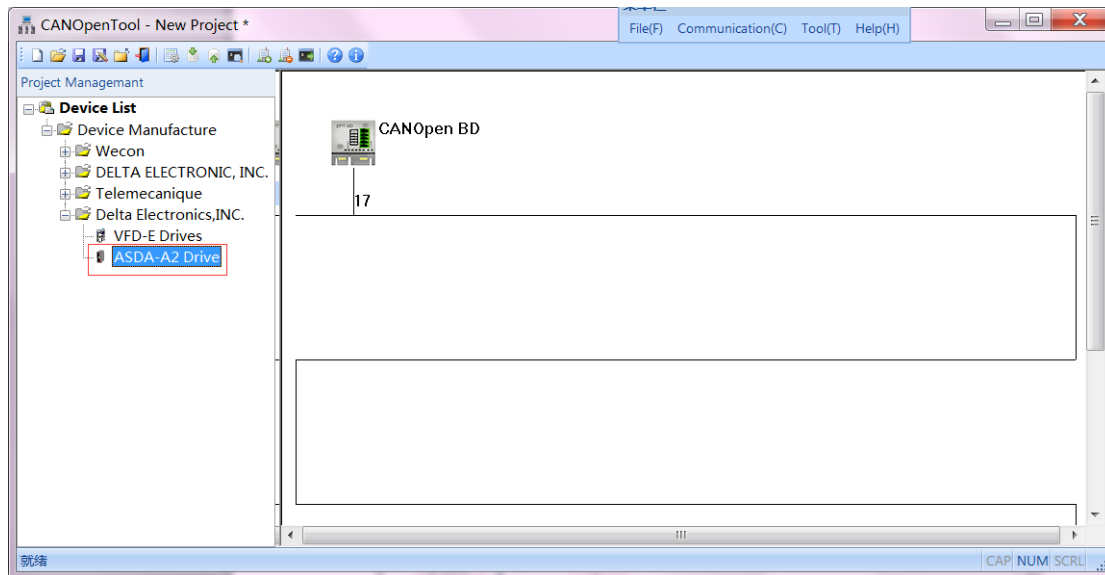

Figure 7-2
- 2) Find the "ASDA-A2 Drive" in "Device list", as Figure 7-2 shows: